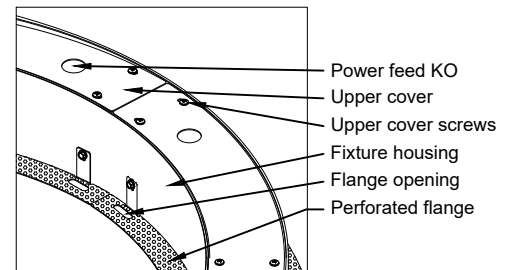

Fig. 2. Power feed location.
3. Locate fixture power feed 7/8" KO on upper cover at left side (Fig. 2). Remove and save upper cover screws. Remove upper cover.
- Spackle fixture flanges as shown on Fig. 1. Make sure to fill and smooth all perforated flange openings (Fig. 2).